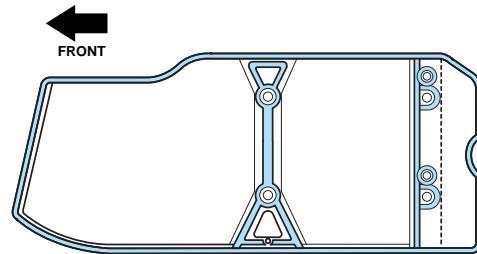

Fig. 3.46 — Shaded Area Represents Bond
- 5 After primer is fully cured, apply adhesive to the mating flanges as necessary, (Keep adhesive away from seat studs to minimize squeeze out), and install service floor panel. Apply even pressure to all bonding surfaces to ensure the floor panel fits flush and level (Fig. 3.46).